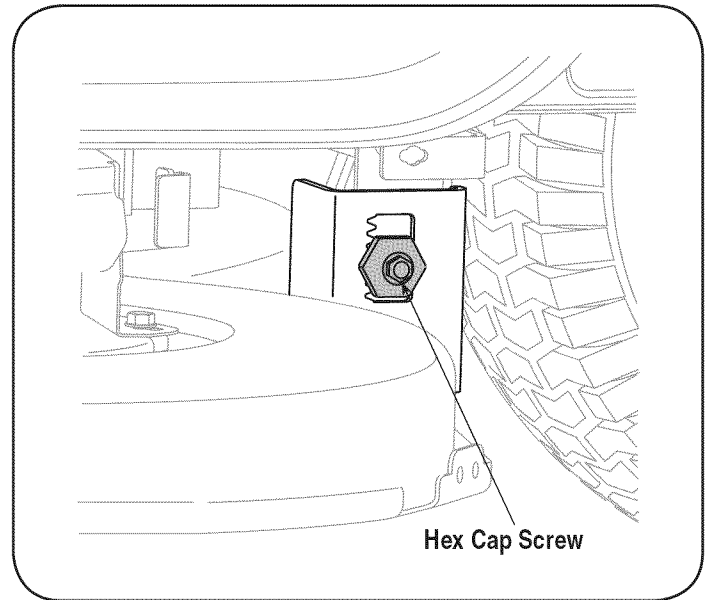

Figure 19
3. Loosen, but do NOT remove, the hex cap screw on the left deck hanger bracket. See Figure 19.